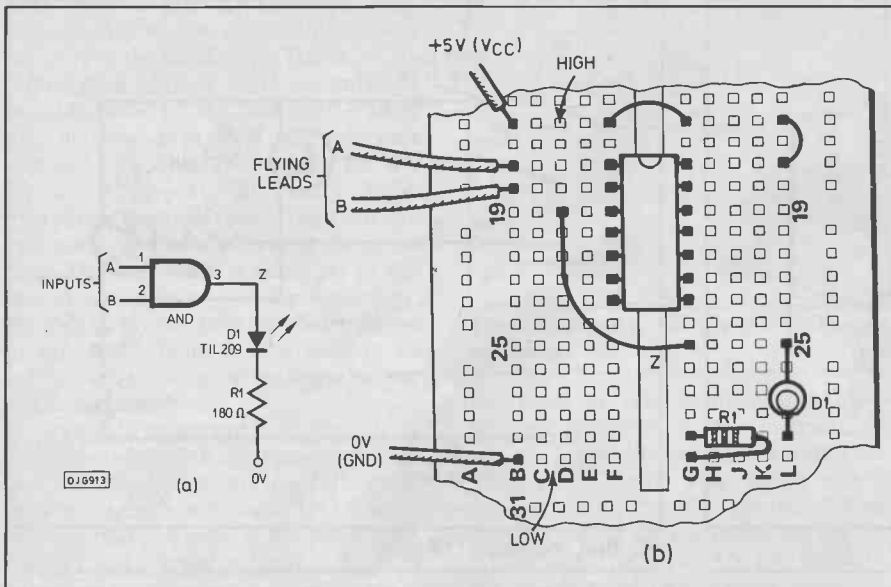

Fig.12 Investigating the action of the 7408
1. Connect a 7406 ic on a breadboard. It requires the power supplies to pins 7 and 14 as in Fig.12. There is only one input lead, to pin 1. The output to the led is connected to pin 2.